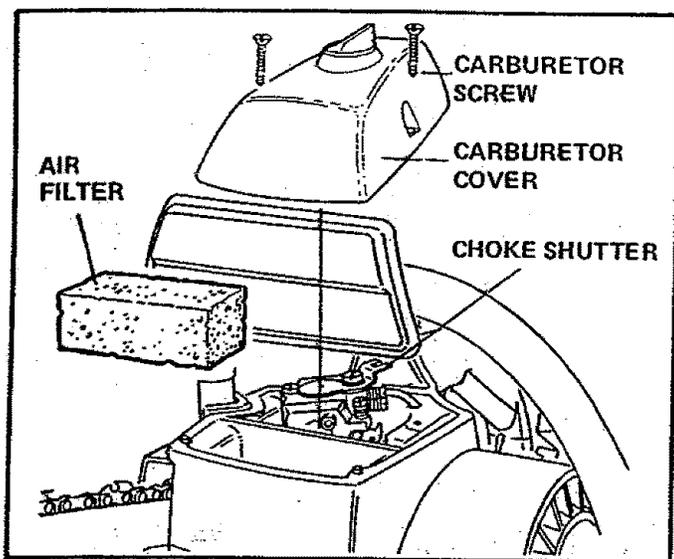

Figure 55
- Remove the carburetor cover screws and carburetor cover. Figure 55.
- Check the choke shutter to be sure it is closed. Figure 55.